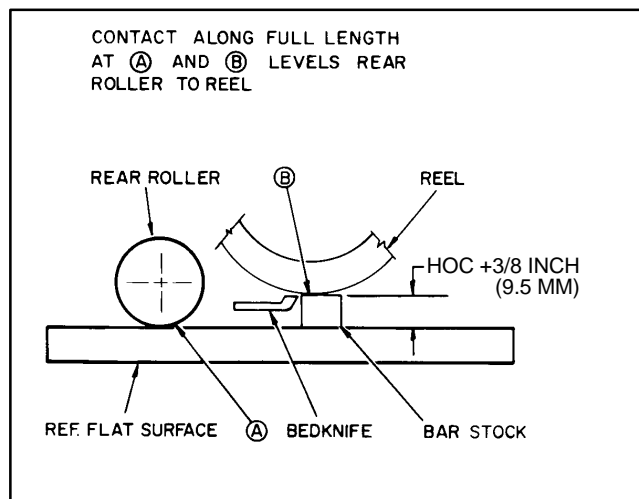

Figure 11
5. Insert piece of bar stock, 25 to 28 inches (64 to 71cm) long with thickness equal to desired height-of-cut, under the entire length of the reel and next to bedknife (Fig. 11).